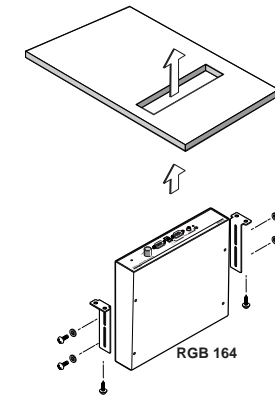

Figure 2-11 — Attaching the through desk brackets
1. Attach the mounting brackets to the interface using four machine screws and washers (supplied with the mounting kit), as indicated in figure 2-11.